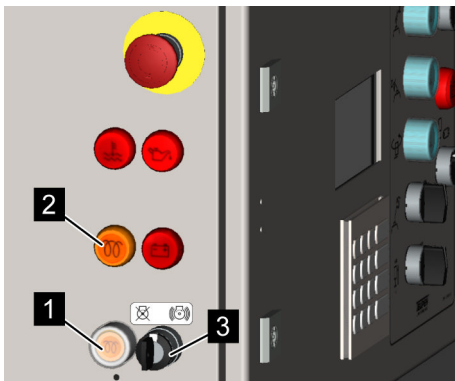

Fig. 44: Pre-heating and starting
2. → Press the button (Fig. 44/1) and hold until the control lamp [Pre-heat] (Fig. 44/2) goes out.
3. → Start the diesel engine by turning and holding the key switch (Fig. 44/3) to  and release the toggle switch immediately when the diesel engine has started.